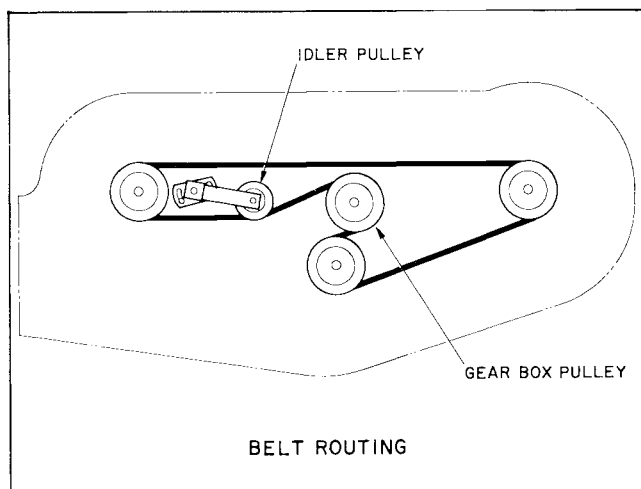

Figure 32
5. Install new belt around gear box pulley, spindle pulleys and idler pulley (Fig. 32).